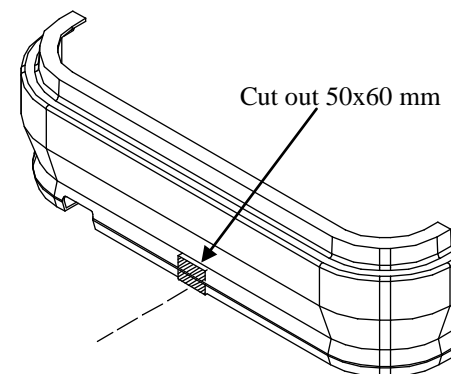

Fig. 2
2. Slide the main bar of the towbar (pos. 1) to the tunnels and fix it through original car holes and towbar holes (pos. A) using bolts M10x35mm (pos. 6) from the towbar accessories. Use washers (pos. 7).
3. Cut the bumper according to fig. 2.